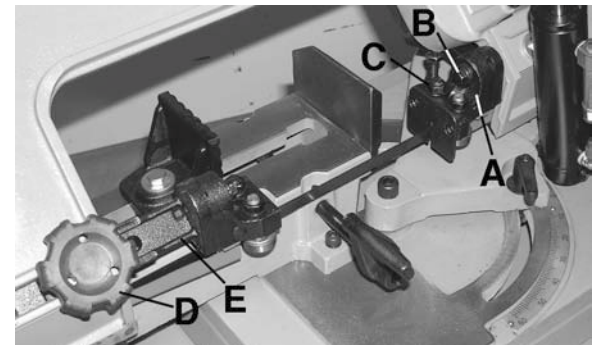

FIGURE 13
- 1) Adjust the blade guide housing (A) Fig.13 by loosening the housing hex. bolt (B) so the support bearing rests against the rear of the blade.
- 2) Loosen the outer side bearing eccentric hex. nut (C) and rotate the eccentric bearing shaft until both bearings have a bearing-to-blade clearance of 0.000" to 0.001". Do not pinch the blade and remember that the blade must be perpendicular to the table.
- 4) Before every operation, unlock the right side bearing guide lock knob (D) and slide the left side bearing guide assembly (E) as close to the workpiece so the blade is supported and will not twist during the cut. Retighten the left side bearing guide lock knob.